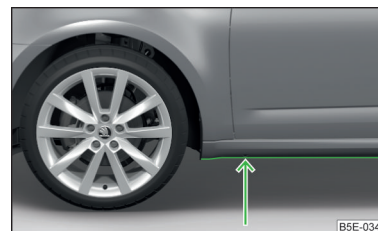

Fig. 237
- › Therefore determine the depth of the water before driving through bodies of water. The water level must not reach above the lower edge of the lower brace » Fig. 237.